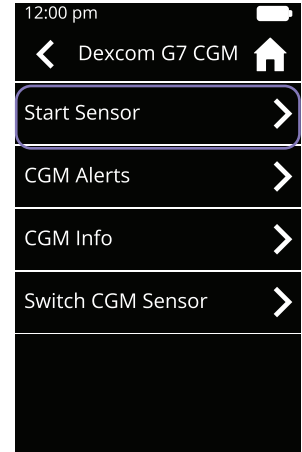

Figure 82
- Return to the CGM menu on your iLet Device. Tap **Start Sensor** (see Figure 82)